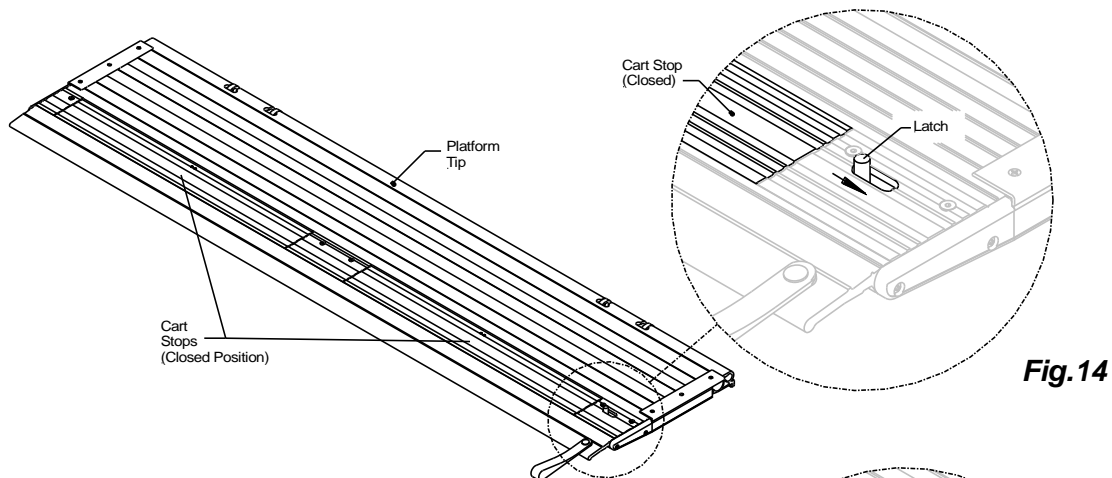
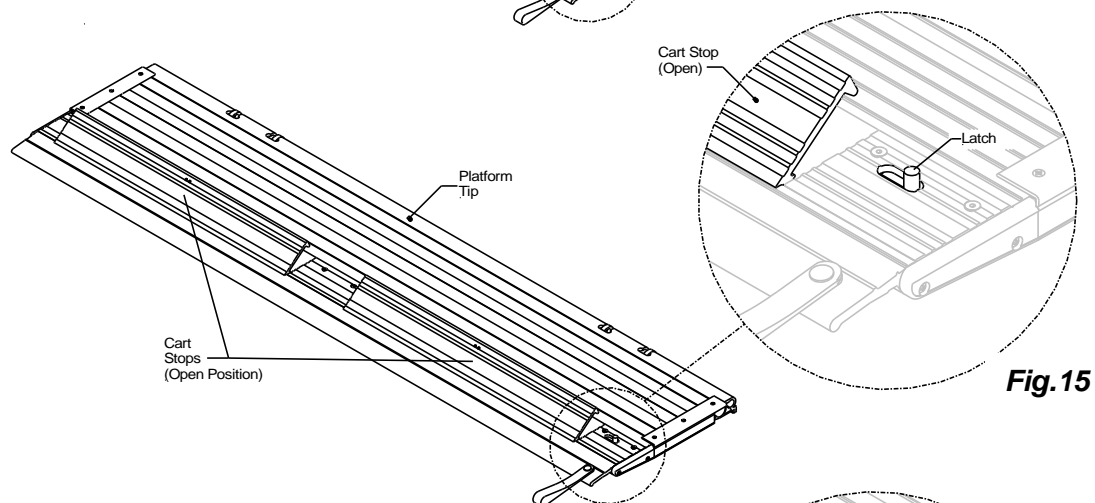

Fig.14
Fig.15
- Raise platform approximately 16" from the ground, fold the tip manually using the handle/strap and secure the tip to the main with the safety chain/strap, **Fig.13**. Manually lift the platform to rest against the wheels, **Fig.14**.
- Use the **UP** function on the toggle switch to store the platform, **Fig.15**.
1. Push the cart stop latch out toward the curb side, **Fig.14**. The cart stop will spring open automatically once the latch has been moved from its original position, **Fig.15**.